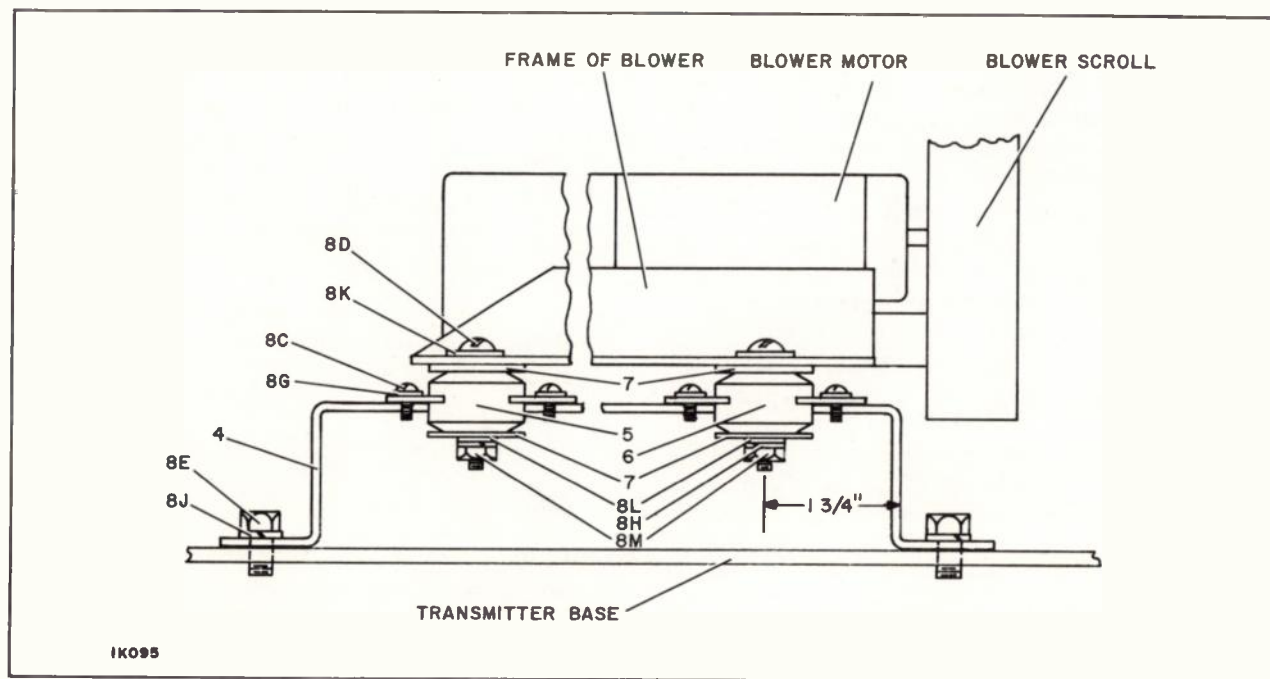

Figure 5. Blower Motor Installation
Install the main blower, using the following procedure. Use components supplied as Blower Mounting Kit MI-560517 to install the blower. Item numbers given in this installation procedure are item numbers of MI-560517. Refer to figure 5 for clarification.
3. Install blower air exhaust cover assembly (item 1), to the underside of blower enclosure top cover, using the 10 .164 (8)-32 tapped holes provided in the top cover. Use 10 .164 (8)-32 screws (item 8A) and 10 lockwashers (item 8F) to secure the cover assembly in place.
4. Mount blower air boot (item 2) on air exhaust cover assembly (item 1), using two clamps (items 3) and 2 .164 (8)-32 x .50 inch long screws (item 8B), 2 #8 lockwashers (item 8F), and 2 #8 nuts (item 8N).
5. Mount the blower to the shock-mounts, using .250 (1/4)-20 hardware as shown in figure 5. Orient blower so that the outlet scroll will be adjacent to the two (2) 20 pound shock mounts (item 6) assembled in step 1 above.
6. Move the assembled blower and mounting bracket into position in the blower enclosure, positioning the blower outlet inside the air boot. Secure the blower mounting bracket to the transmitter base, using 4 .312 (5/16)-18 x .63 long bolts (item 8E) and 4 .312 (5/16) lockwashers (item 8J).
7. Secure air boot to blower outlet using remaining clamps (item 3) and #8 hardware (items 8B 8F, and 8N).